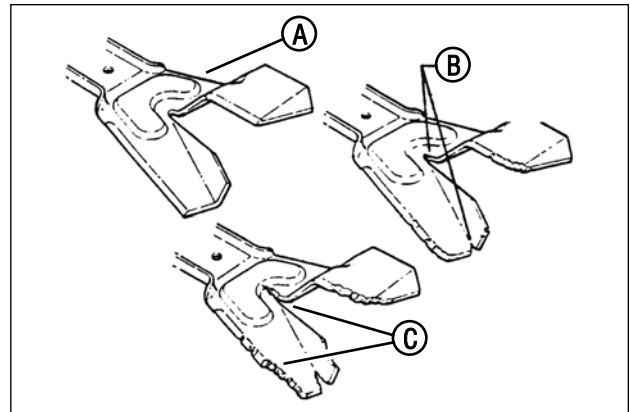

Figure 20: Ninja blade wear limits
1. Inspect the blade (**Figure 20**) frequently for signs of excessive wear or damage:
- (A) New blade
- (B) Wear limit (cracks or notches begin to appear on tip)
- (C) Dangerous condition! Do not use on the mower!